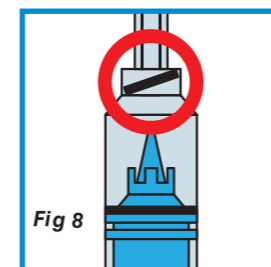

Fig 8
- Do not overexert when doing injection as this may cause premature retraction of the retractable mechanism or unseat the sealing ring (Fig 8) to result in non retraction of the needle.